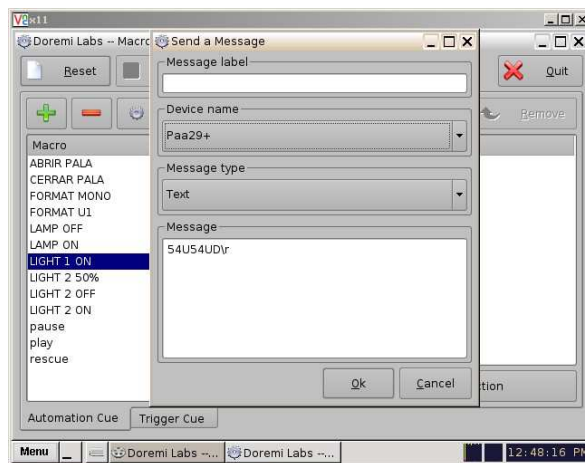

Figure 8.3.3E
9. On the appearing "Send a Message" pop-up window (**figure 8.3.3E**), write the following: